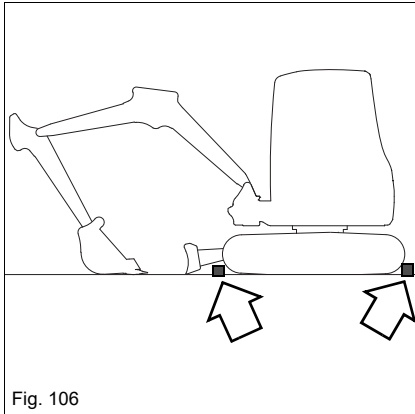

Fig. 106
9. Secure the tracks accordingly (for example with chocks, blocks) as shown in Fig. 106.